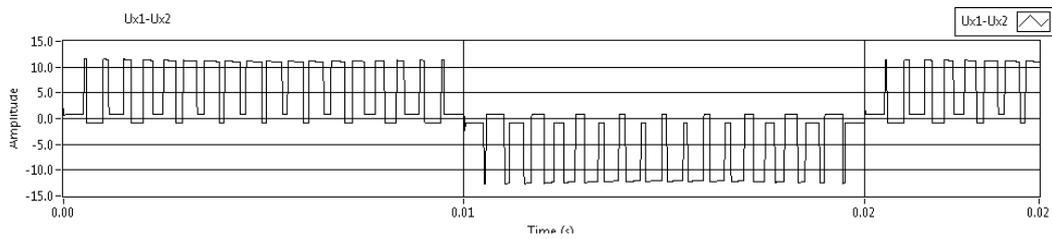

Figure 23 Measured output voltage  $U_{op}$ - $U_{on}$
18. Confirm correct switching is obtain in the output voltage,  $U_{x1}$ - $U_{x2}$ . Compare with Figure 23.